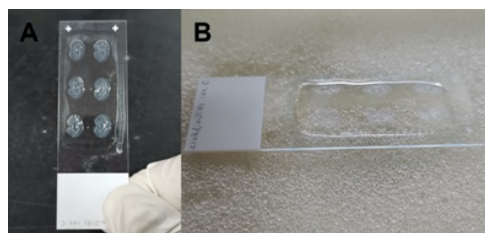

Figure 5. Blocking process.
- Wipe off the remaining solution. Use the hydrophobic barrier pen to draw a circle around the tissue. (Perform the above procedures quickly to keep the sections moist). Lay the slide flatwise. Add approximately 200ul buffer B2 onto the slide and make sure the tissue is immersed. Transfer the slide to the water box and keep the box closed. This blocking process takes 1 hour (Figure 5).